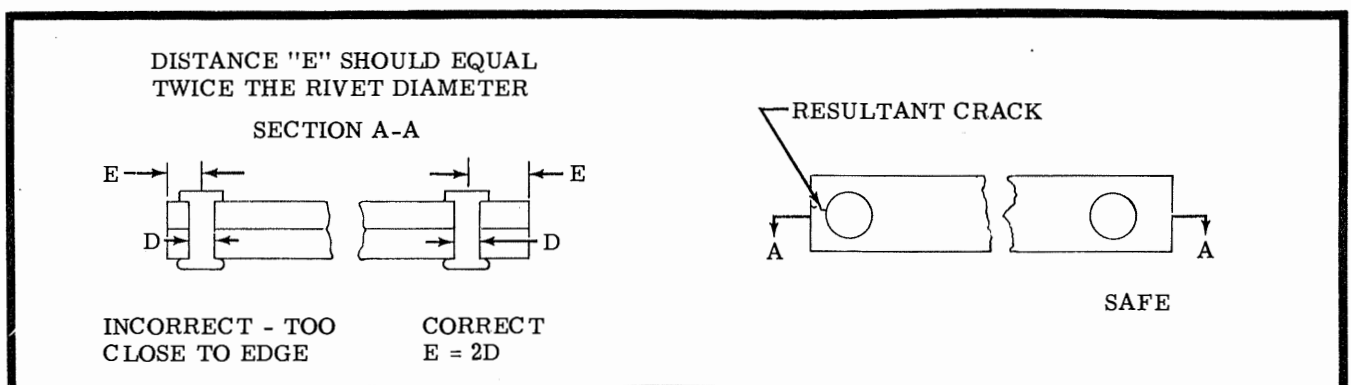

Figure 16-52. Rivet Edge Distance
1. The edge distance of rivets should not be less than two diameters of the rivet measured from the edge of the sheet or plate to the center of the rivet hole. (See figure 16-52.)